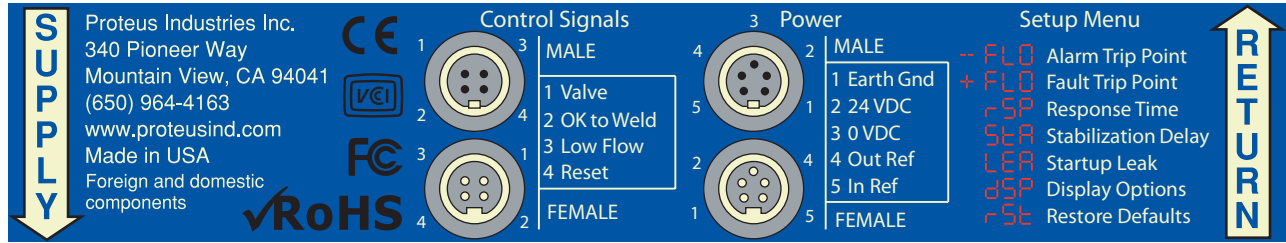

Figure 3: Wiring and electrical connection diagrams for the WS1N WeldSaver
1. Refer to Figure 3 on Page 23 for dimensions and fastening locations.
1. Refer to Figure 3 above to identify the 24 VDC power interface connections.